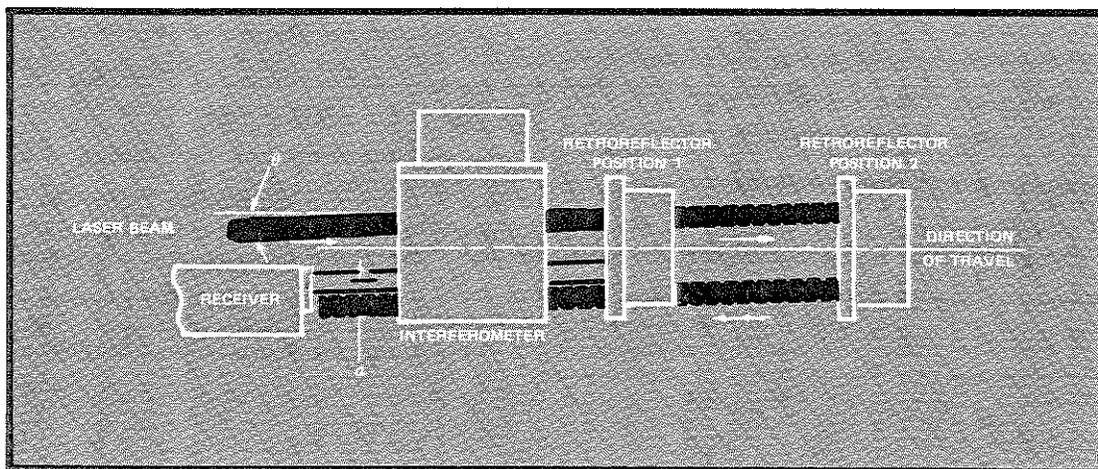

Figure 2-51. Effects of Angular Misalignment to the Direction of Travel
If the measurement beam is not angularly aligned parallel to the mechanical motion of travel of the retroreflector, there are two effects. First, a cosine error is included in the measurement of a magnitude directly related to the angle of misalignment. (For a complete description of cosine error refer to Accuracy Considerations.) Second, the angular misalignment also causes a displacement of the measurement beam with respect to the reference beam at recombination. This results in additional signal loss. Figure 2-51 illustrates the result of angular misalignment.
The visual alignment technique relies on the principle that if the measurement beam to the retroreflector is not parallel to the direction of travel, it is offset upon recombination with the reference beam of the interferometer (see *Figure 2-51*). When the interferometer and retroreflector are at the closest point to each other, the laser beam and optics are adjusted such that the reference and measurement beams completely overlap. When either the retroreflector or interferometer are moved along the measurement path, any angular misalignment causes a displacement of one laser beam with respect to the other which can be visually observed. Since the human eye can resolve a displacement of the beam of approximately 300 micrometres (0.01 inch) this technique can be applied for measurement travel of 0.5 metres (20 inches) or longer. For travel less than this, the sensitivity of this technique is normally not sufficient and autoreflection alignment should be used. The cosine error (E) in parts per million can be calculated from the following formula: